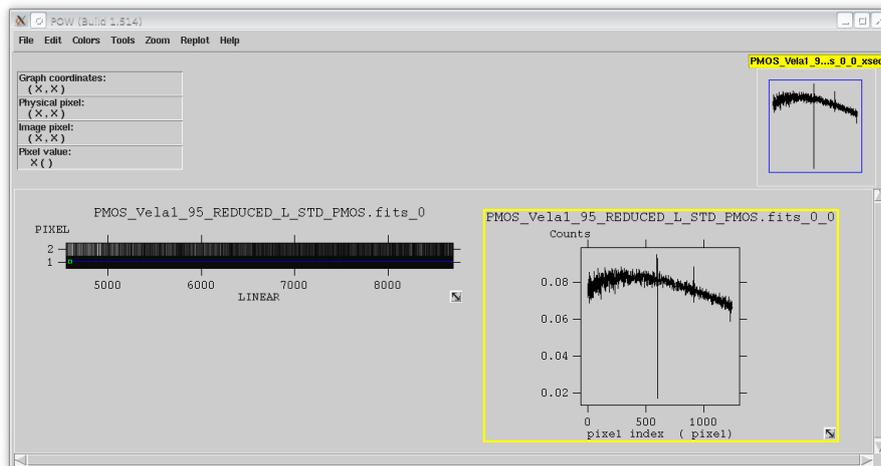

Figure 9.6: *The Stokes L (fractional polarization) spectrum of the polarized standard star Vela1-95.*
In Fig. 9.6, you see a plot of the Stokes L (fractional degree of polarization) parameter obtained for the second demo data set produced by the f_v^{12} tool:
- left-click in the image display and draw the line across the image to get the profile (see Fig. 9.6).